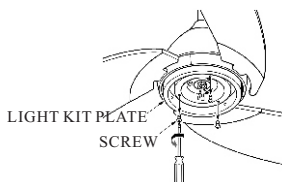

FIG.16
3. Remove 3 screws on light kit plate. (see Fig.16)